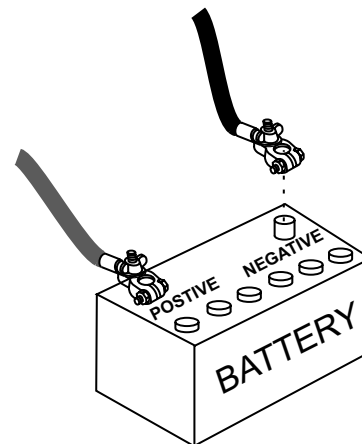

Figure 19. Battery Connections
3. Connect the negative battery cable (BLACK) to the negative post on the battery (Figure 19).